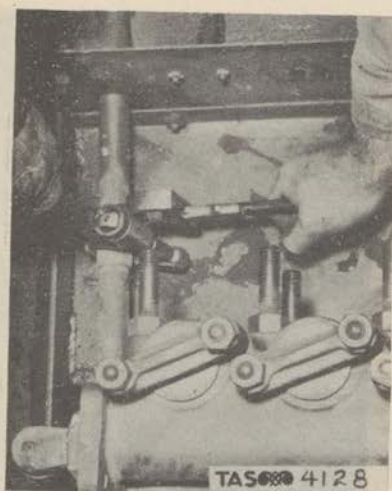

Figure 99. Disconnecting the Injector Line.
(5) Disconnect the injector line. (Fig. 99)